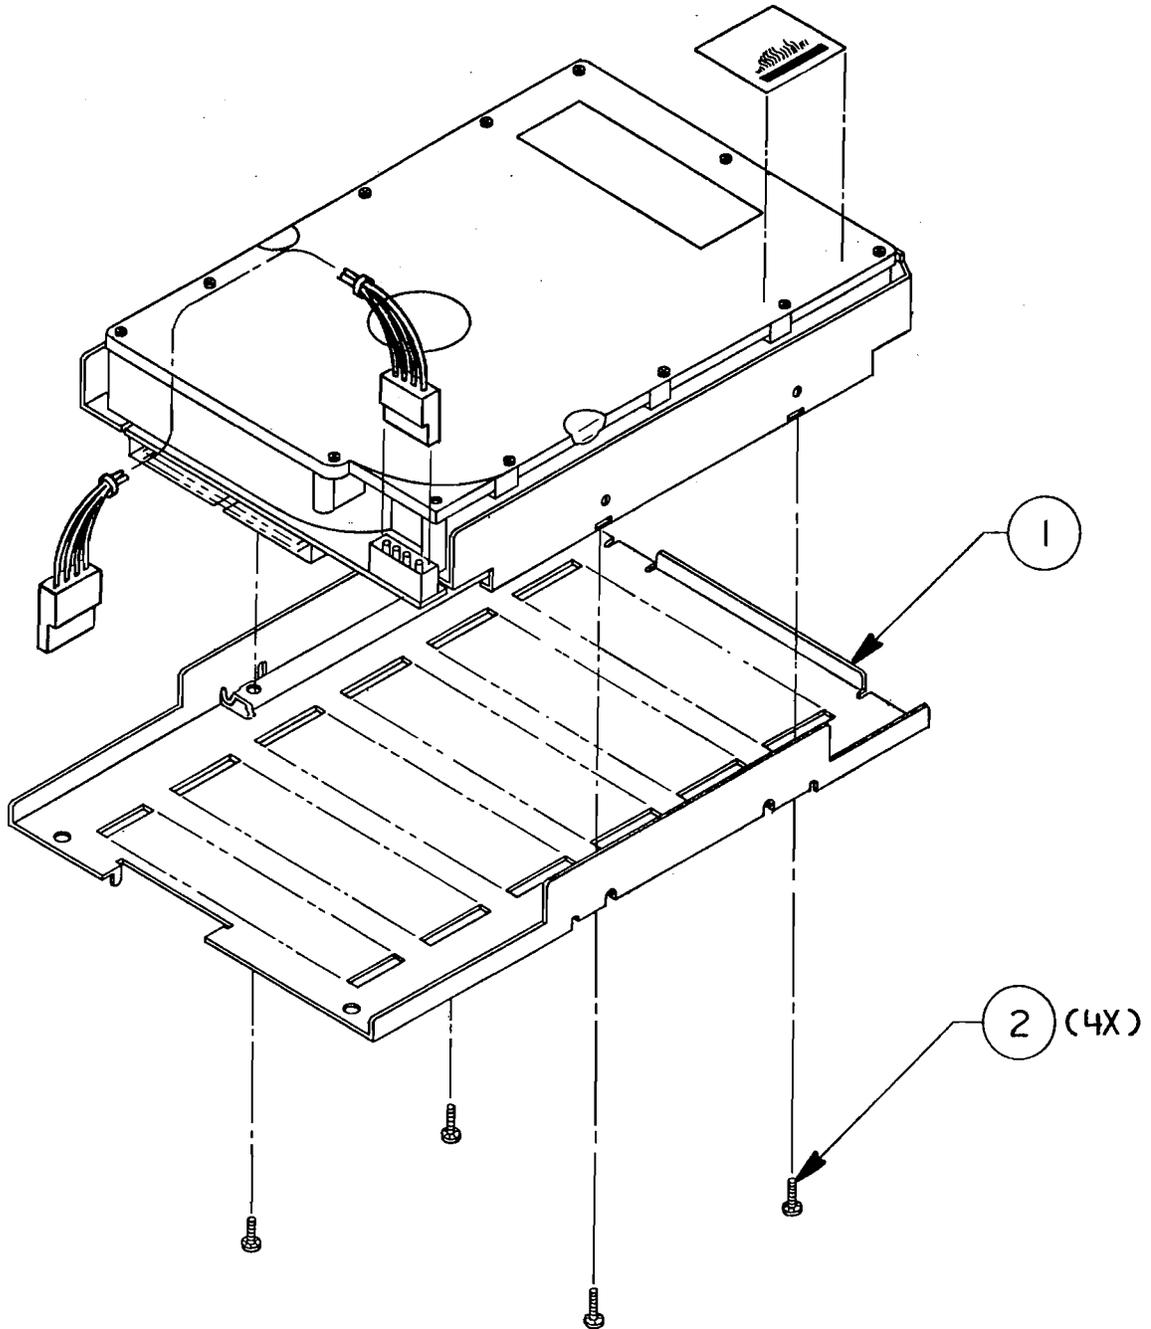

FIGURE 3
- IPL.7 Hard Disk Assembly (HDA) – 40SC/80SC (Figure 3)
□ HARD DISK ASSEMBLY (HDA)—40SC/80SC (Figure 3)